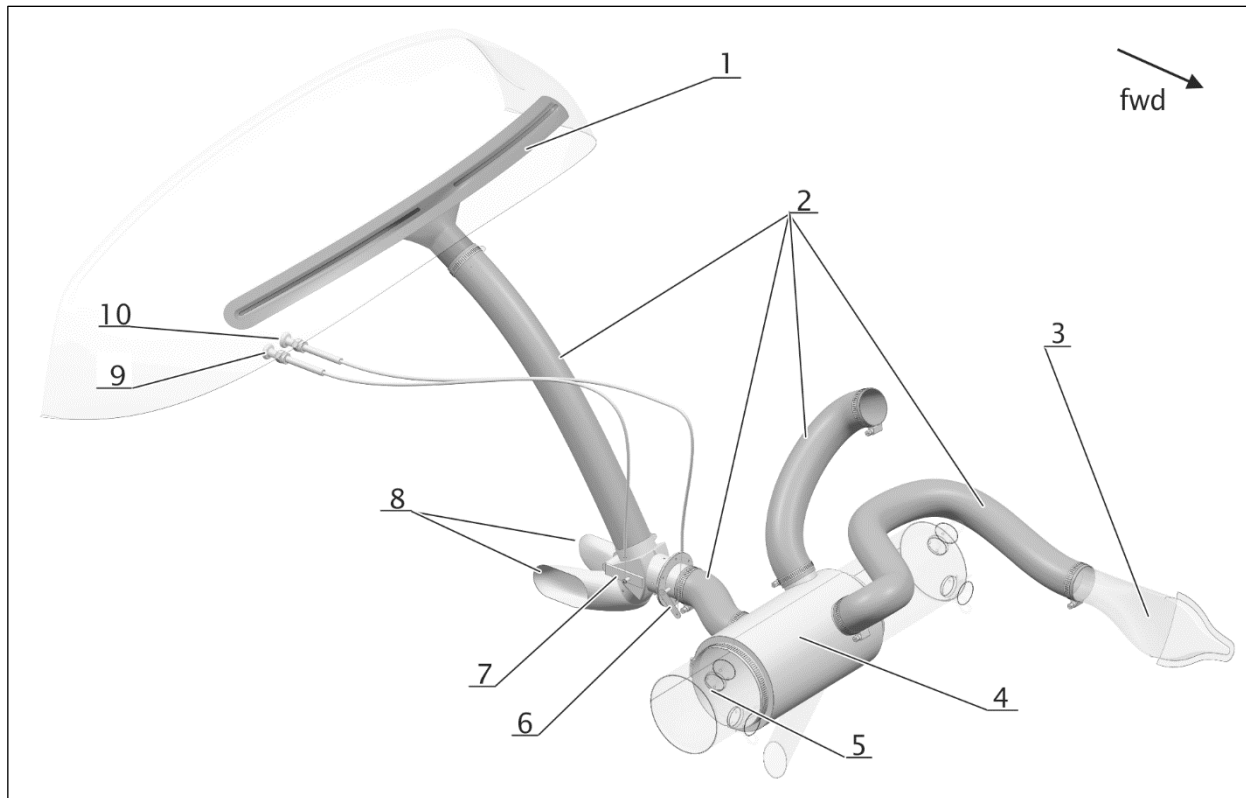

Fig. 3 Heating System
Cockpit heating is ensured by hot air from the heat exchanger (see Fig. 3). The heat exchanger (4) is located on the muffler (5). Ambient inlet air (3) taken by the muffler is heated in the heat exchanger and supplied through heating flap (3) located on the firewall into the cockpit by air hose (2). Quantity of hot air is regulated by HEATING knob (10) on the instrument panel. Behind the firewall a mixture flap
(7) is located, which splits hot air flow into the canopy bubble outlet (1) and into the crew legs outlet (8). The mixture flap is controlled by the MIXTURE knob (9).
- ▶ Disconnect the control cable on the heating flap lever (6, Fig. 3) and mixture flap lever (7, Fig. 3).
- ▶ Remove the nuts (1) thus releasing the flexible housing (3) with the control knob (2).
- ▶ Remove the control knob with cable from the flexible housing (3).
- ▶ Insert the control knob (2) into the flexible housing and fasten it from both sides of the instrument panel by means of nuts (1).
- ▶ Connect the control cable with flap control levers (6 and 7, Fig. 3).